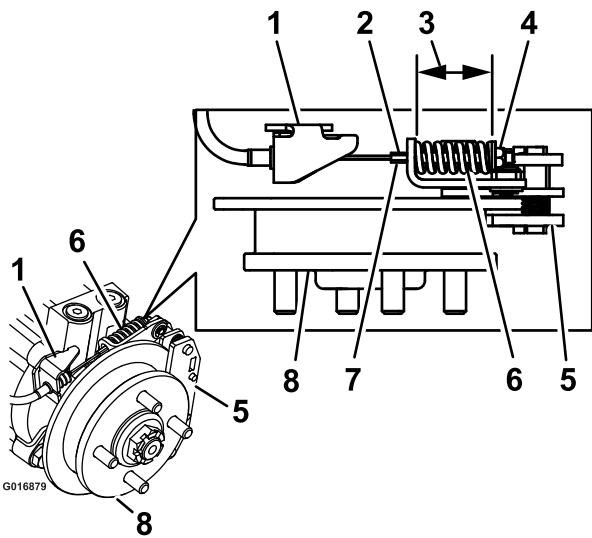

Figure 79
9. Hold the threaded rod end with a tool and adjust the lock nut until the spring length is between 1-1/2 and 1-9/16 inches (3.8 and 4.0 cm) (Figure 79). Do Not allow the cable to turn when the nuts are being loosened.